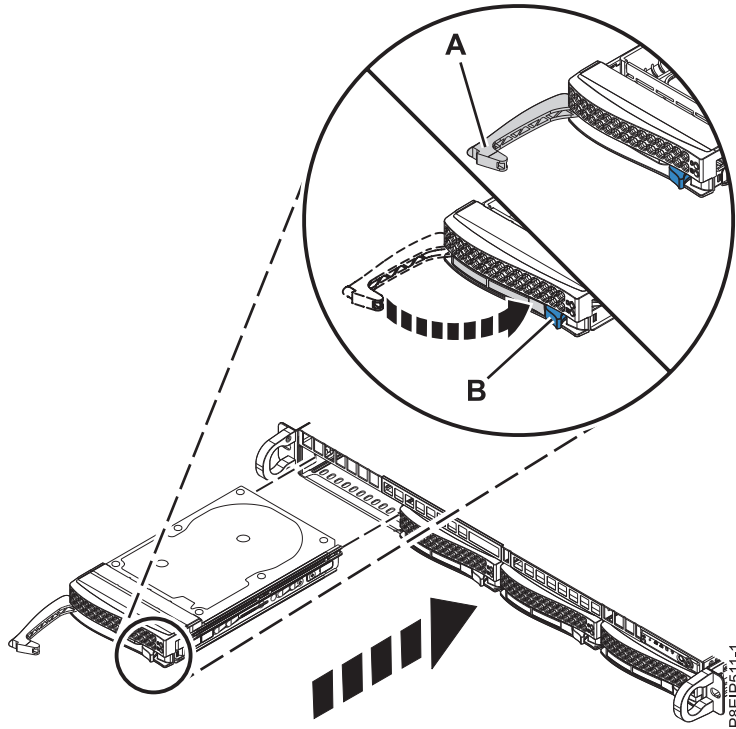

Figure 4. Disk drive lock detail
4. Lock the drive bay handle (A) by pushing in the handle release until it locks at (B) as shown in Figure 4 on page 7.